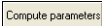

**Figure B-9. Adding the Point Pairs**
- To calculate localization parameters, click  (**Perform a localization**) on the toolbar. On the *Localization* screen (Figure B-9), click **Add point** and select the corresponding points in the corresponding columns: